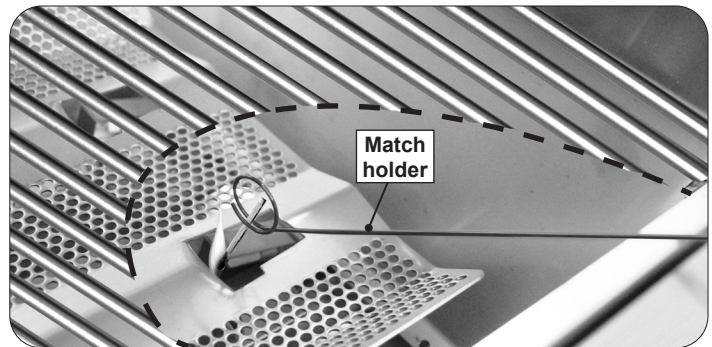

Fig. 31-2 Manual lighting
2. Insert either a burning long-barrel butane lighter, a burning long-stem match, or a burning match held by the included wire extension match holder through the cooking grid opening and flavor grid to the top of the burner (Fig. 31-2).
4. If the burner does not light within five (5) seconds of turning the control knob, **immediately depress the knob and turn the valve to OFF**. WAIT FIVE (5) MINUTES before repeating steps 2 through 4 of the MANUAL LIGHTING instructions.